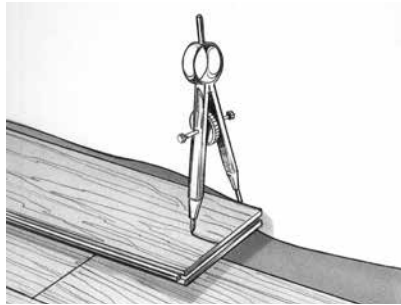

Fig. 3
1. Use dividers or a 1" (2.54 cm) spacer turned sideways to mark the contour (Fig. 3).